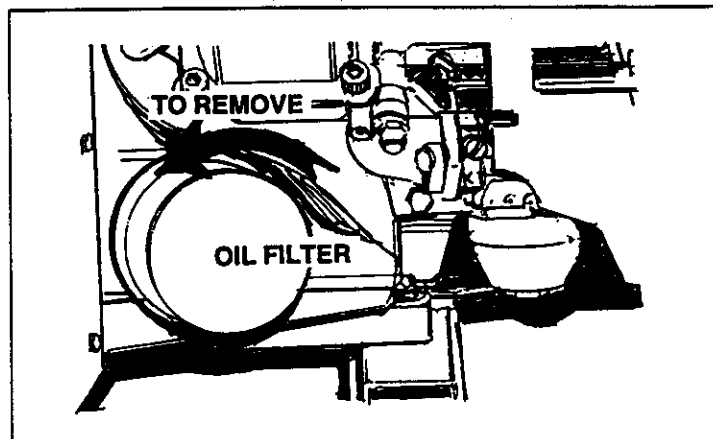

FIG. 11
- Clean area around oil drain plug, remove plug (Fig. 11) and drain oil completely into a suitable container.
- Turn oil filter counterclockwise to remove (Figure 11).